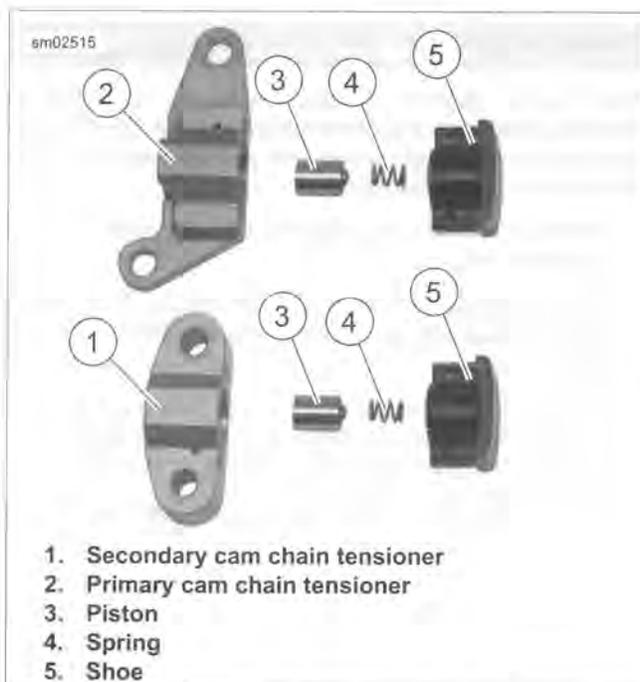

Figure 3-96. Cam Chain Tensioner Assemblies
- b. See Figure 3-96. Be sure primary and secondary cam chain tensioners are assembled as shown. If assembled incorrectly, tensioners will not function properly.